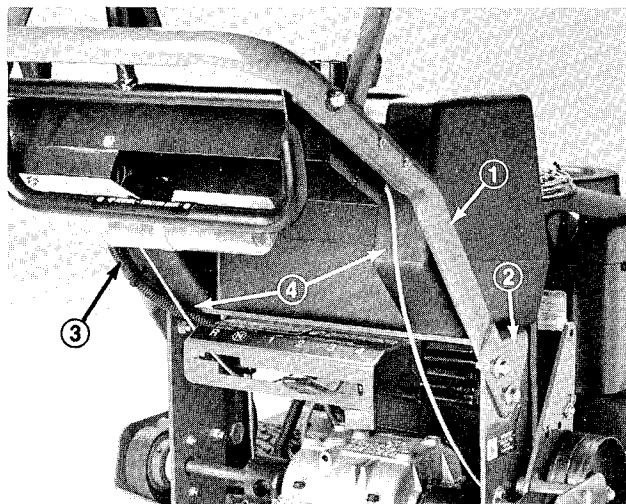

Figure 4
1. Align upper handle mounting holes with desired mounting holes in frame and secure each side with (2) 3/8 -16 x 1" lg. flange capscrews and flange nuts (Fig. 4). Torque capscrews to 23-27 ft.-lbs. Route wire harness and cables under frame (Fig. 4).